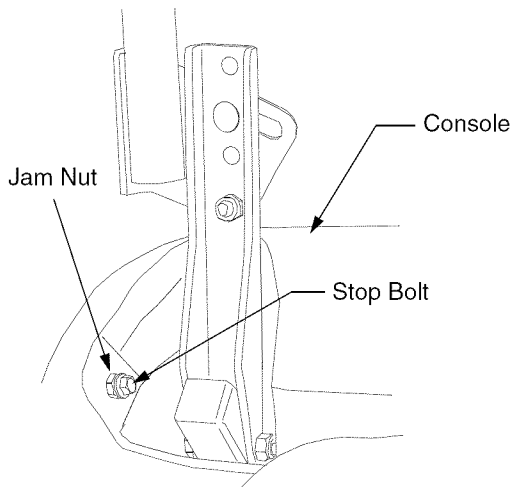

Figure 32
- Locate the applicable stop bolt on the left or right console. See Figure 32.